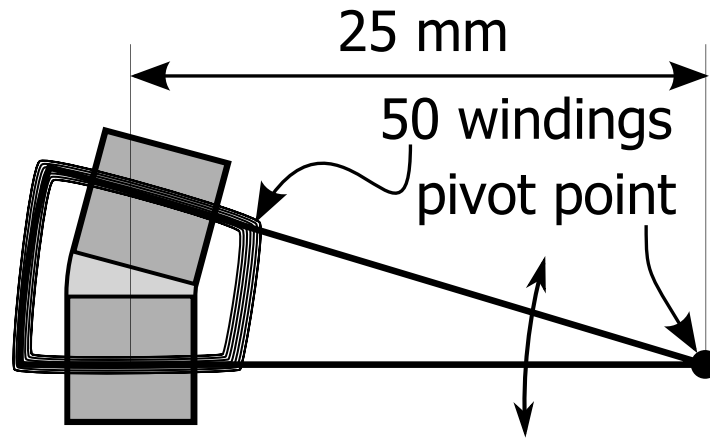

Figure 6: Schematic top view of the HDD arm actuator.
- (6p) **5c.** Given that number of windings, $n = 50$, and that the coil is at an effective distance $l_{\text{pivot}} = 25 \text{ mm}$ from the pivot point, as is shown in Figure 6, determine the motor torque constant of the actuator.